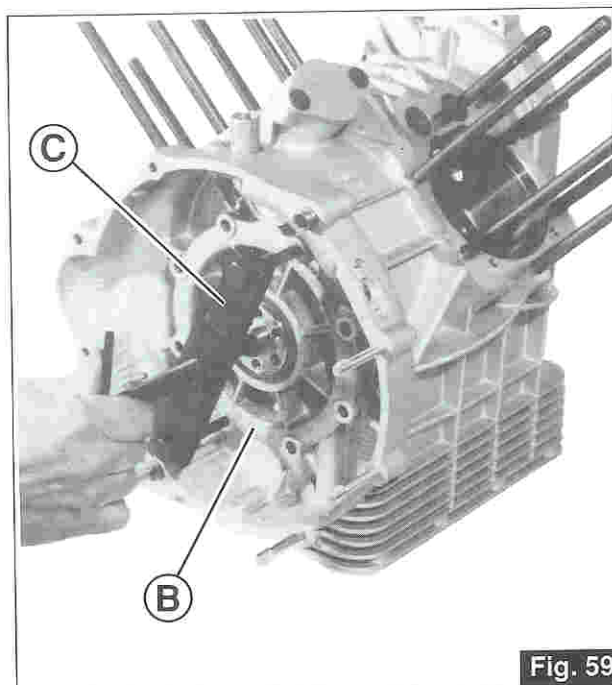

Fig. 59
- Fit tool «C» (part no. 12 91 36 00) as shown in fig. 59 to remove rear flange «B». Remove the flange and draw out the crankshaft from the rear.